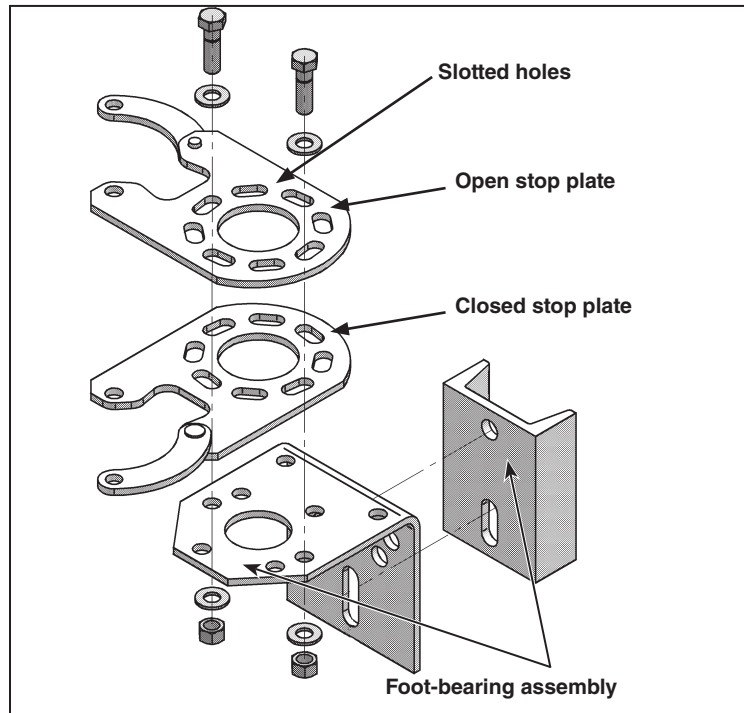

Figure 32. An exploded view of the stop plates and foot-bearing assembly.
STEP 28. The stop plate holes are slotted to allow room for adjustment. Loosen the bolts that secure the adjustable stop plates to the foot-bearing support plate. See Figure 32. Place the switch in the fully open position and adjust the open-position stop plate so the handle, when lowered, fits into the open-position slot. Mark the location of the open-position stop plate on the support plate.
- Loosen the hardware securing the closed stop plate. See Figure 32.